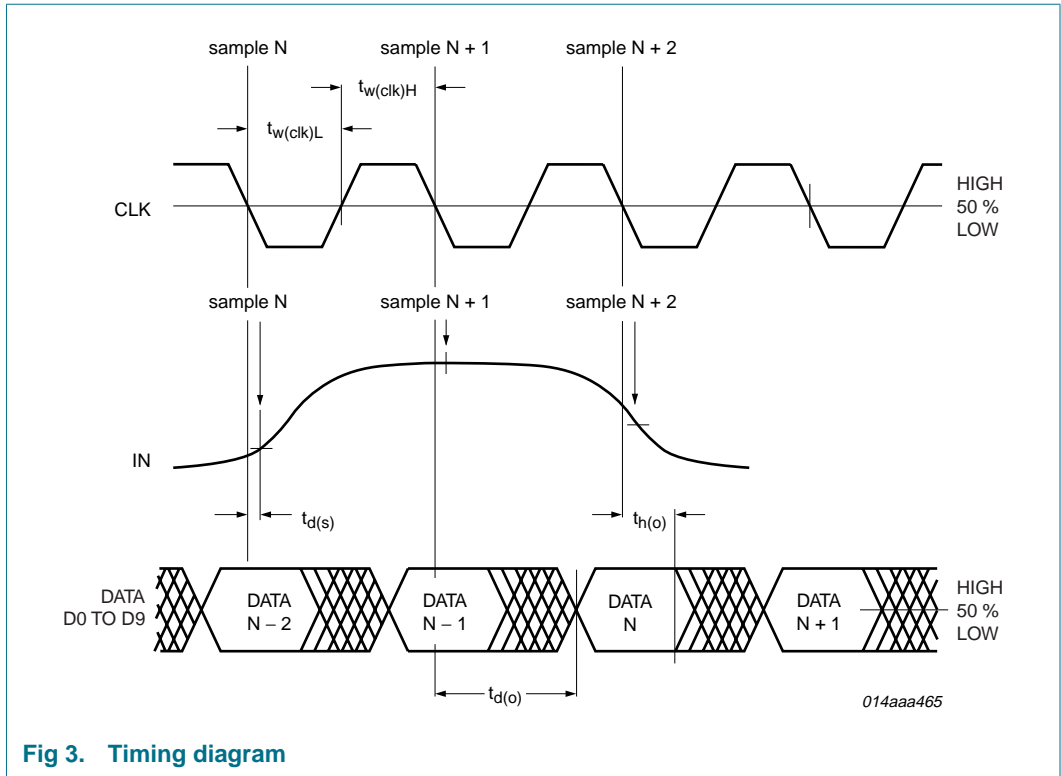

Fig 3. Timing diagram
- [9] Output data acquisition: the output data is available after the maximum delay of  $t_{d(o)}$ ; see Figure 3.